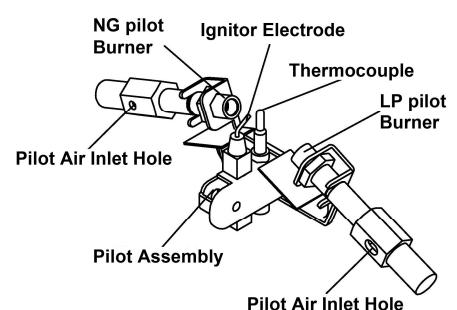

Figure 18 – Pilot
- 7. With control knob pressed in, push down button. This will light pilot. The pilot is attached to the front burner. The pilot can be seen through the glass panel. If needed, keep holding in ignitor button until pilot lights. (See Figure 18).